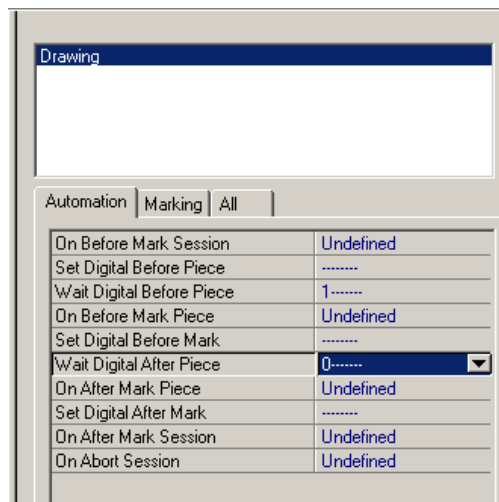

Figure 3 Wait Digital After Piece automation
- 7 Click the arrow button and choose *Clear*. The Automation tab should appear as shown in Figure 3.